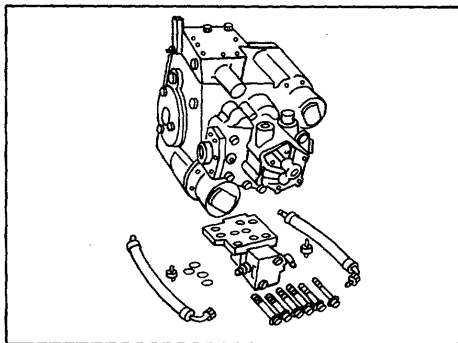

Figure 26.
4. Remove O-rings from P.O.R. valve (refer to Fig. 26).
5. Install valves to pump using the three shortest bolts in the back holes (refer to Fig. 26).